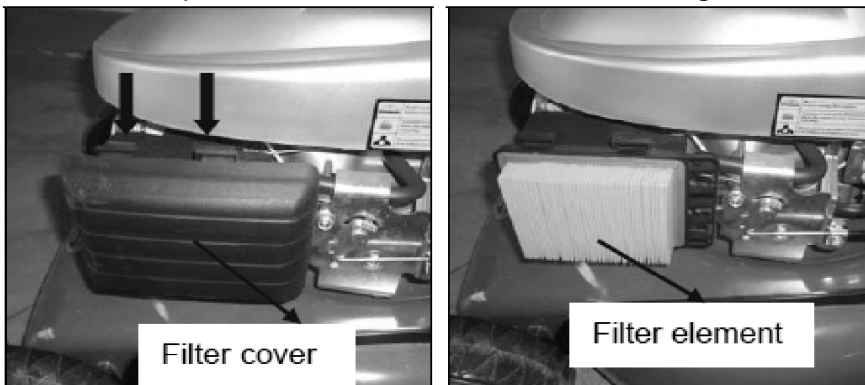

Fig.13A Fig.13B
1. Press down on the two tabs at the top of the filter cover. (Fig.13A)